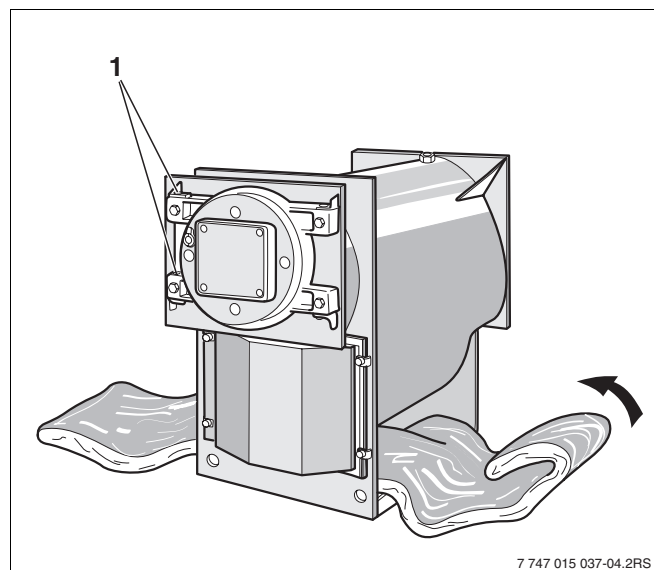

Fig. 3 Sliding the thermal insulation jacket underneath the boiler
- Make sure that both hinge bolts (Fig. 3, **Item 1**) are inserted.